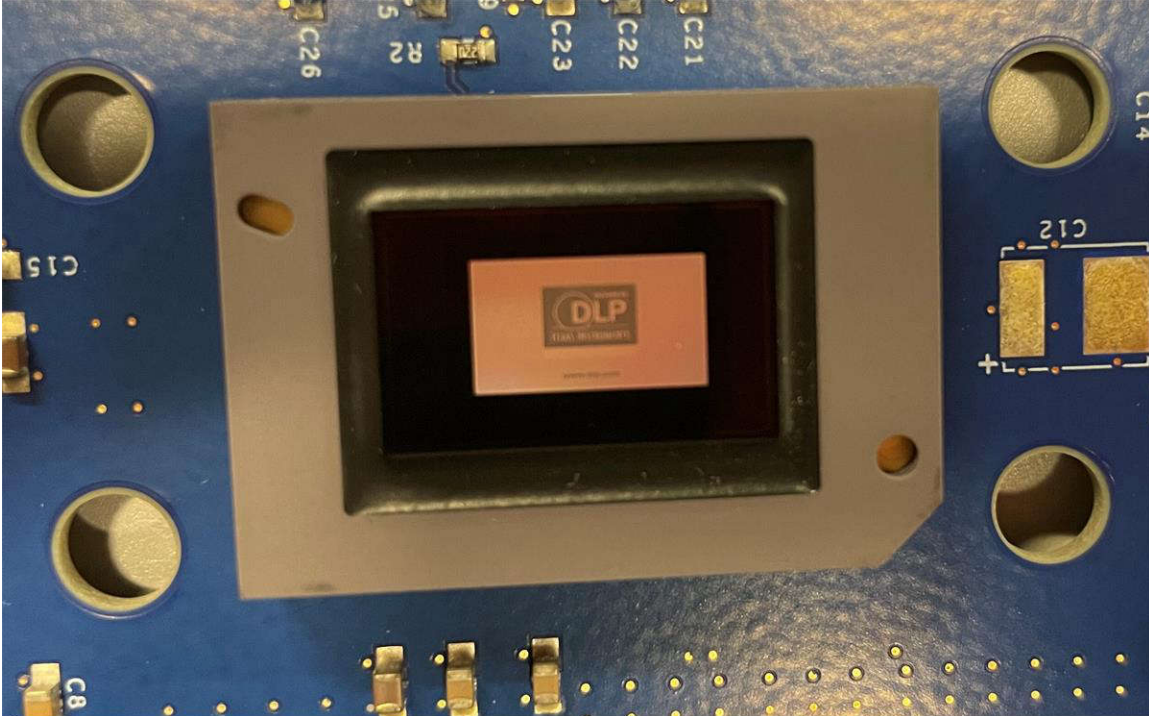

Figure 3-5. Splash Image Displayed on DMD
- d. Turn on the EVM by toggling the SW5 and SW1 switches in that order to *on* position. After about 3 seconds, users see D5, D6, and D7 LEDs steadily on and D15 LED flashing. The DLP Texas Instruments logo is visible on the DMD; see Figure 3-5.